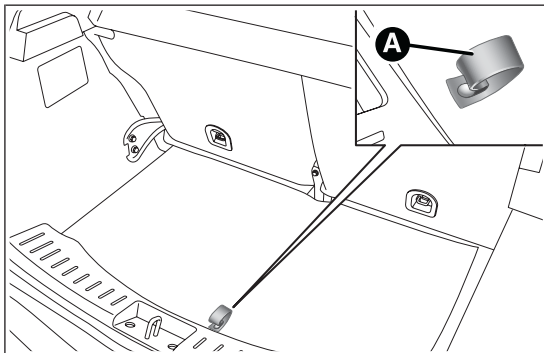

fig. 115
- open the luggage compartment, pull tab A fig. 115 and lift up the mat;